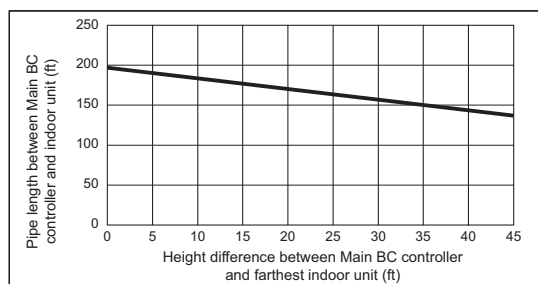

Fig. 2
*2. Details refer to Fig. 2.
*7. When the piping length or the vertical separation exceeds the limit specified in Fig. 2, connect a sub BC to the system. The restriction for a system with a sub BC connection is shown in Fig. 3. When a given system configuration falls within the shaded area in Fig. 3, increase the size of the high-pressure pipe and the liquid pipe between the main BC and sub BC by one size. When using P12, P15, P18, P36, or P48 model of indoor units, increase the size of the liquid branch pipe between the sub BC and indoor unit by one size. When using indoor models P54 or larger, the restrictions shown in Fig. 2 cannot be exceeded.
*7. When the piping length or the vertical separation exceeds the limit specified in Fig. 2, connect a sub BC to the system.
When using indoor models P54 or larger, the restrictions shown in Fig. 2 cannot be exceeded.